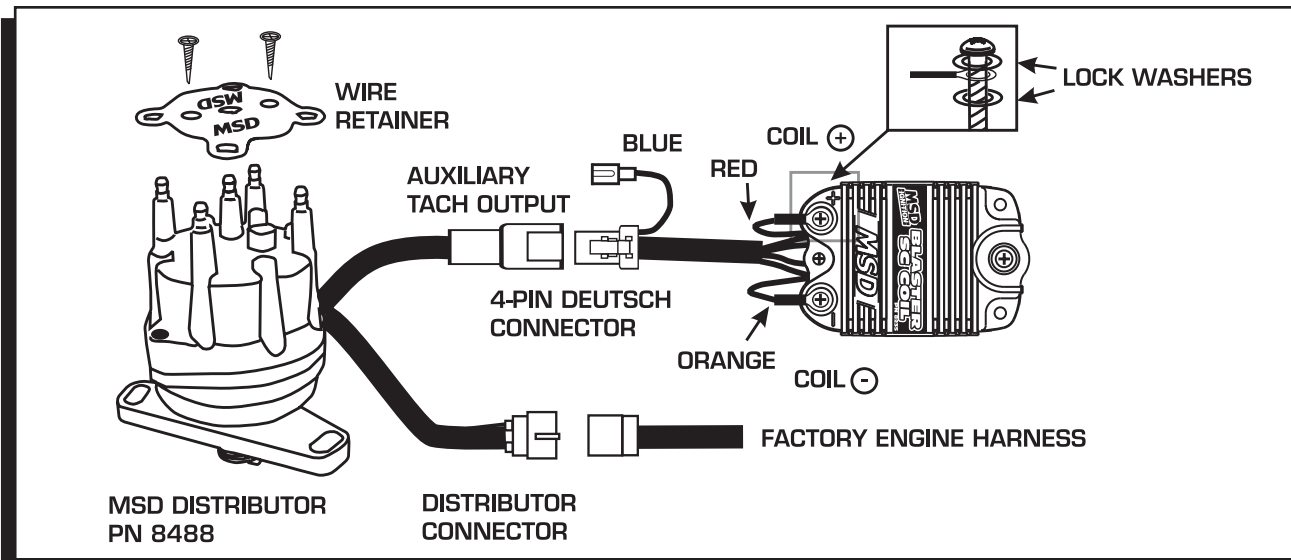

Figure 3 Wiring the Coil and Driver to the Distributor.
4. Connect the distributor connector into the engine harness (Figure 3).
5. Connect the 4-pin Deutsch connector to the matching connector of the MSD Coil Driver (Figure 3). The factory tach will function without connecting the Blue auxiliary tach wire.
7. Install the MSD wire retainer with the supplied screws (Figure 3).